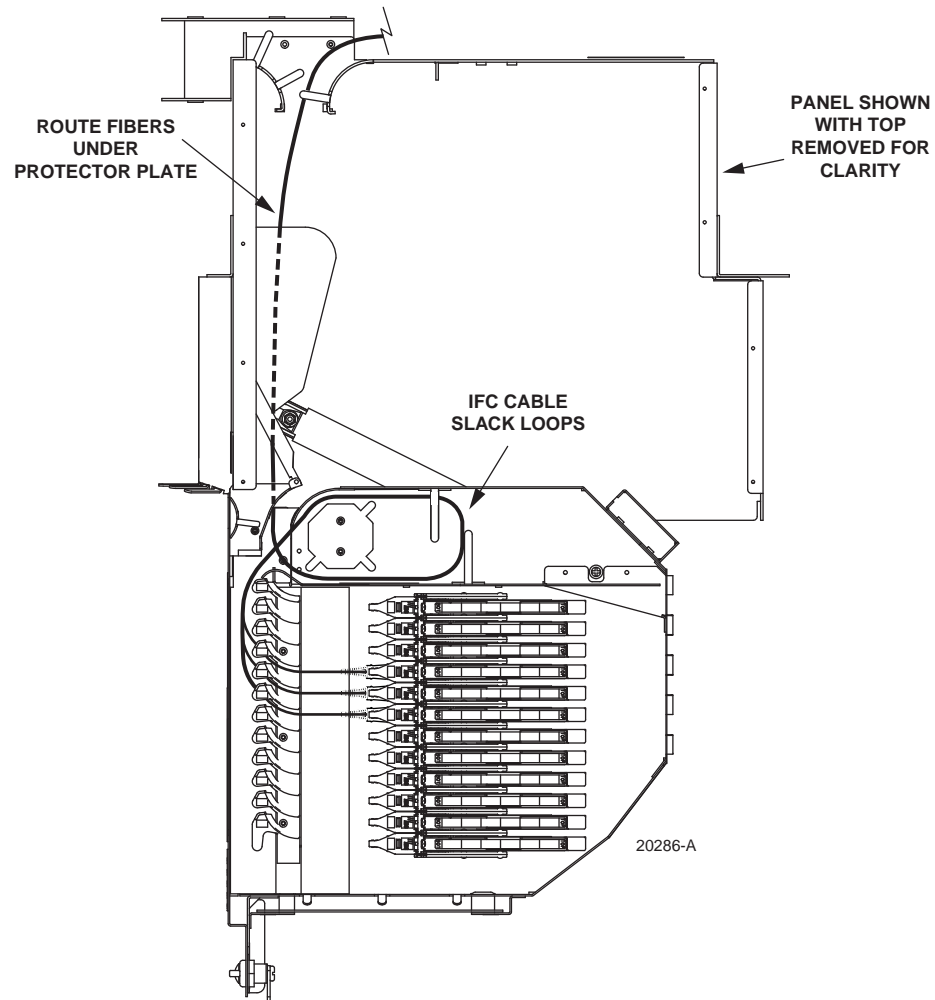

Figure 31. IFC Cable Installed In 13-Slot MicroVAM Chassis
7. Route the cable fibers within the drawer as shown in Figure 31.
10. Store the excess slack by routing the cable fibers around the radius limiter provided (see Figure 31).